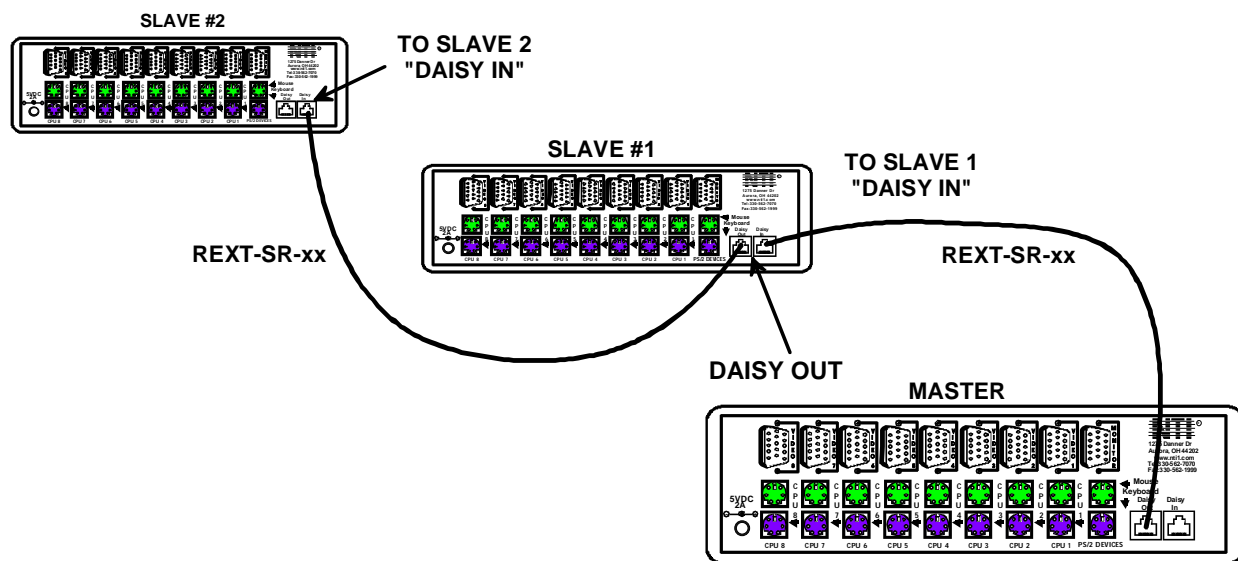

Figure 7- Connect remote extension cables between cascaded units
- b. With another RMT extension cable, connect slave #1's "DAISY OUT" port to slave #2's "DAISY IN" port. (See Fig. 7 below.)